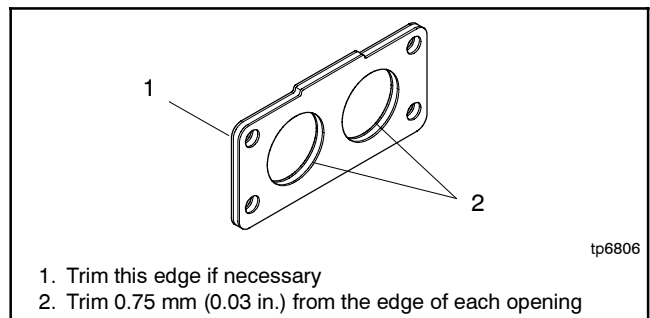

Figure 3 Trimming the Carburetor Gasket
- a. Yes? Always trim the carburetor gasket and test the operation before replacing the carburetor. See Figure 3.